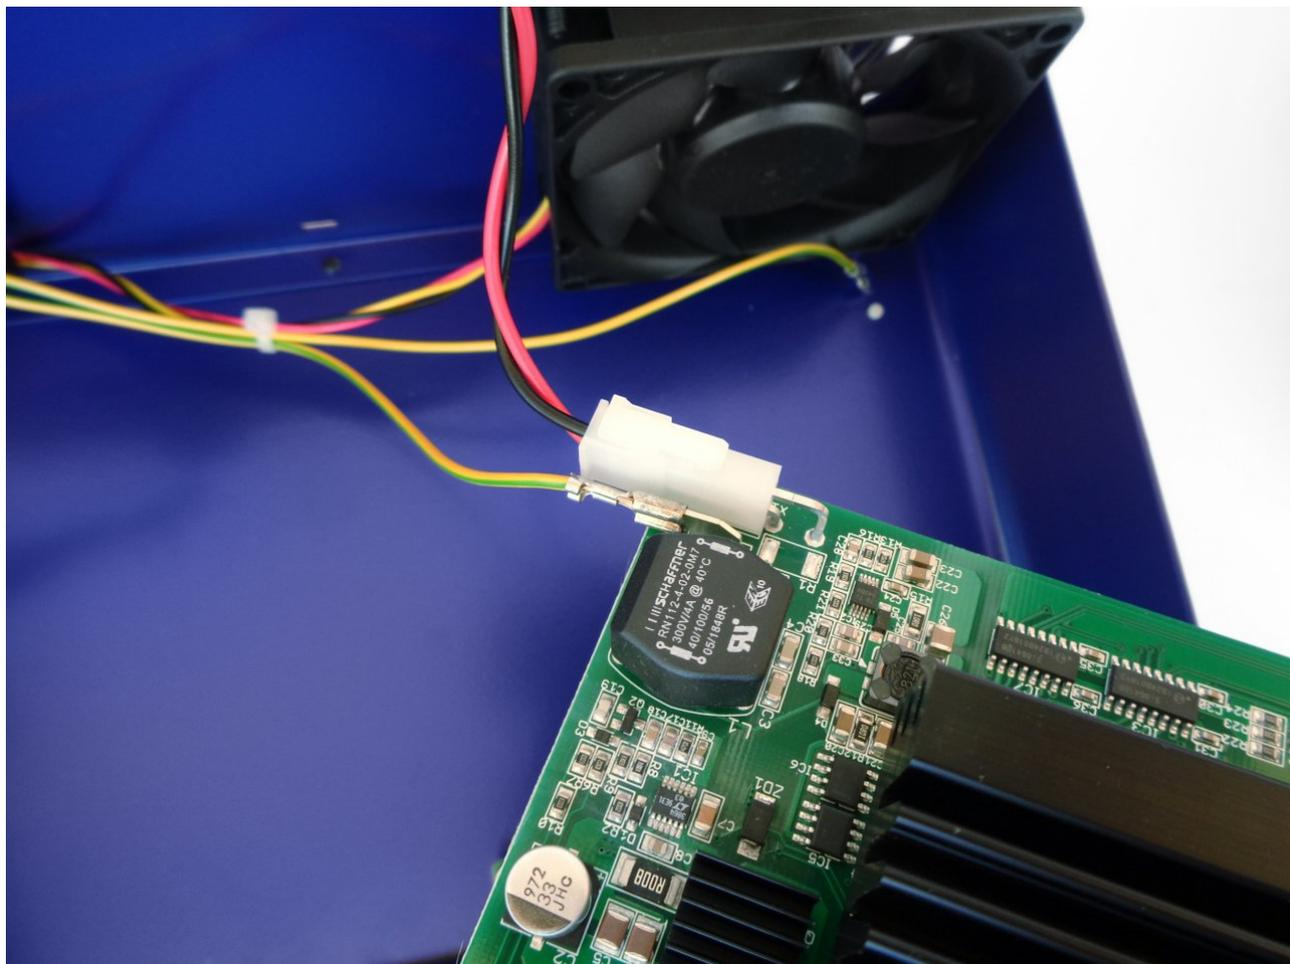

Fig. 38: Power module input connections
The power module (item 8, Fig. 2) should be connected with the DC cable (item D, Fig. 4) coming out of the Mean Well converter and the PE cable (item B, Fig. 4) connected to the AUX-PS module as shown in Fig. 38.